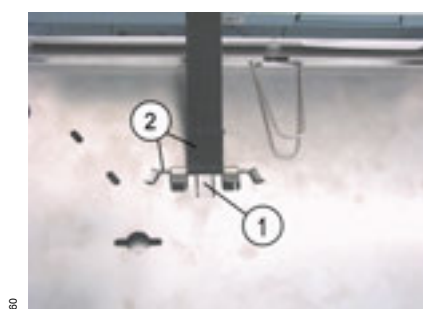

Fig. 52 Detail view of operator control unit: Metal pin and retaining strap
- 2 Hold the spring (Fig. 52/1) of the operator control unit pressed down and at the same time push the metal pin and the retaining strap (Fig. 52/2) into the operator control unit lock.